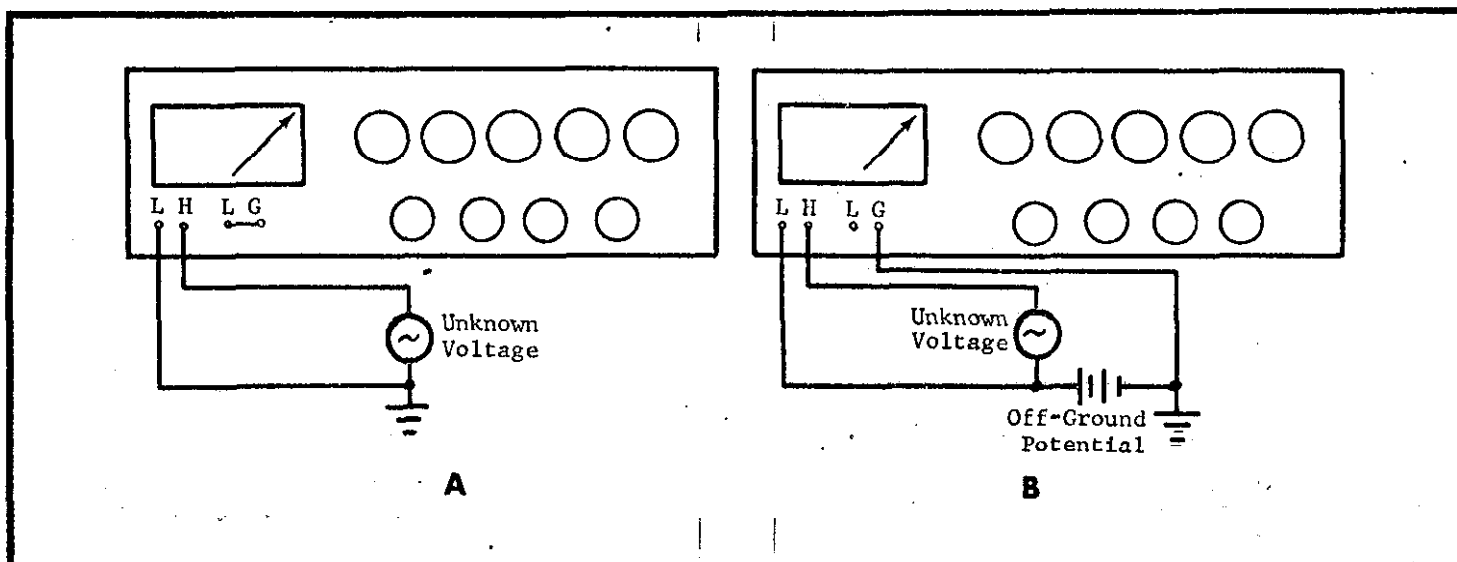

FIGURE 2. Input Connections to Model 661. The two diagrams show the input circuit for measuring at ground and for floating.
2. Connect the unknown voltage to the input terminals, using the LO Post for the low impedance terminal of the unknown. Refer to Figure 2.